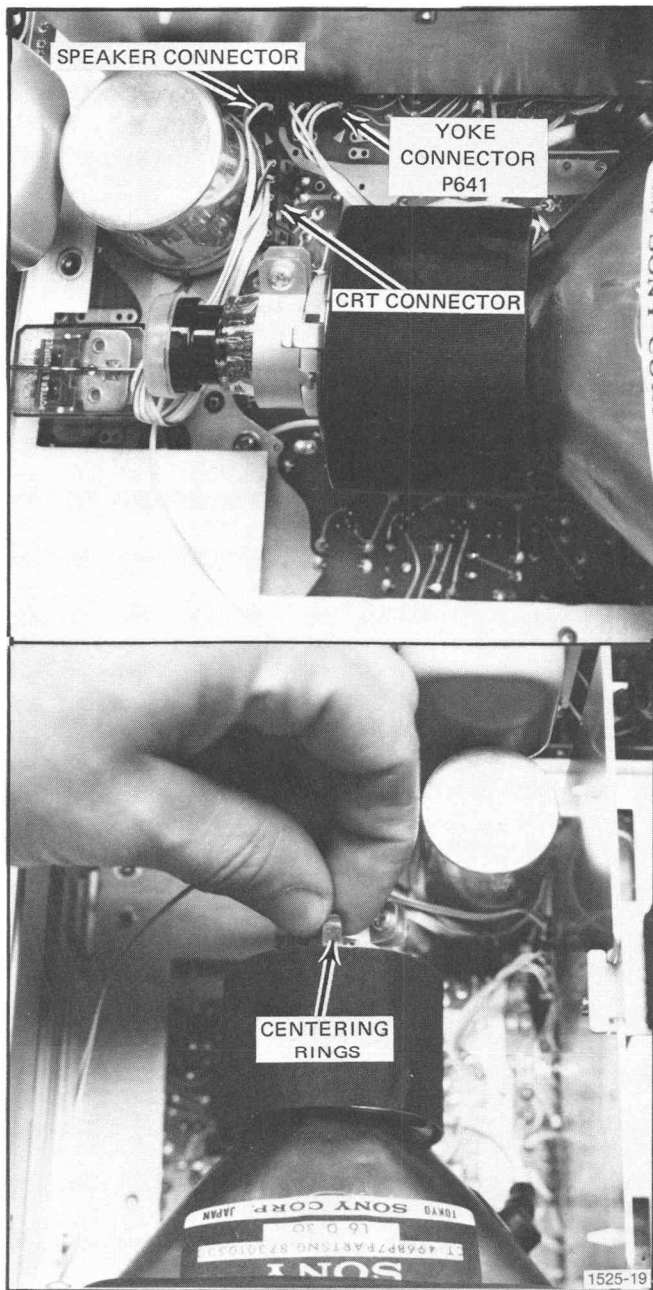

Fig. 5-5. Yoke Connector, P641 and spot centering rings.
- a. Turn POWER off and disconnect yoke plug, P641 (see Fig. 5-5). Turn POWER on.
- c. ADJUST—Spot to graticule center, using centering rings (see Fig. 5-5).